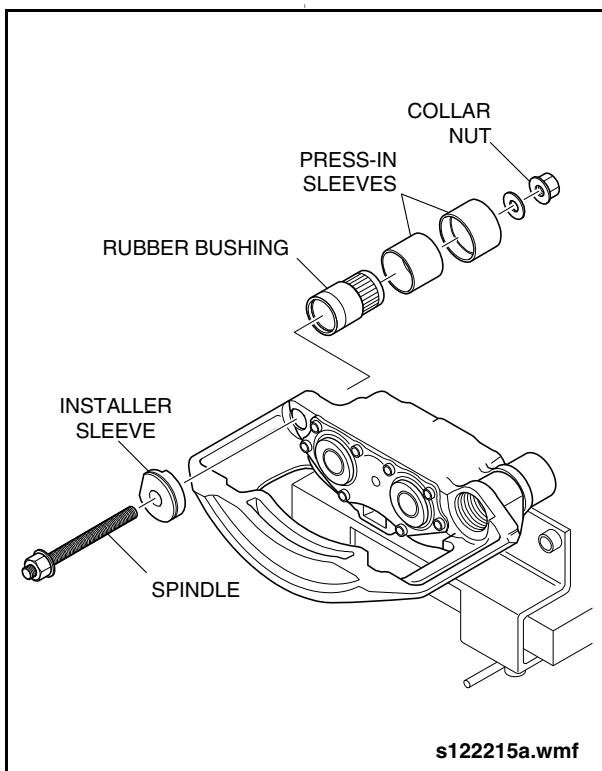

Fig. 1-60: Rubber Bushing Installation
- b. Position installation tool with rubber bushing on the brake caliper and mount with spindle and collar nut tools (Items 70, 71, 72, 75, & 77 from special tools list). See "Fig. 1-60: Rubber Bushing Installation" on page 68.